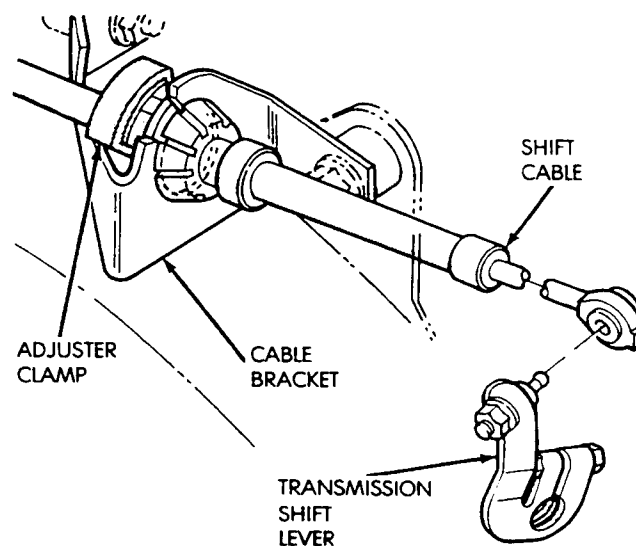

Fig. 47 Shift Cable Adjustment
(1) Shift transmission into Park.
(2) Raise vehicle.
(3) Release cable adjuster clamp to unlock cable (Fig. 47).
(4) Unsnap cable from cable bracket (Fig. 47).
(5) Move transmission shift lever all the way rearward into Park detent. Lever is on manual valve shaft at left side of case.
(6) Verify positive engagement of park lock by attempting to rotate propeller shaft. Shaft will not rotate when park lock is engaged.
(7) Snap cable into cable bracket.
(8) Lock shaft cable by pressing cable adjuster clamp down until it snaps into place.
(9) Check engine starting. Engine should start only in Park and Neutral.
(10) Lower automobile.